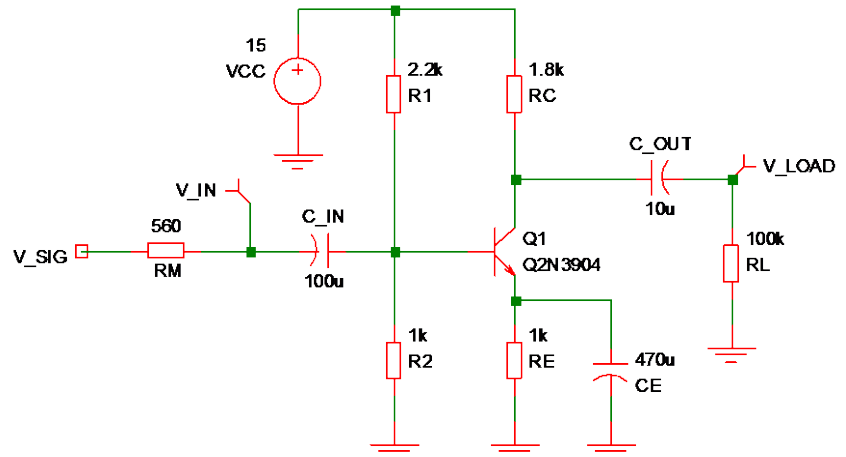

Fig. 3: Common emitter amplifier with 470 uF emitter bypass capacitor.
- Step 3a: Add a 470 uF capacitor to the emitter of the transistor (see Fig. 3).